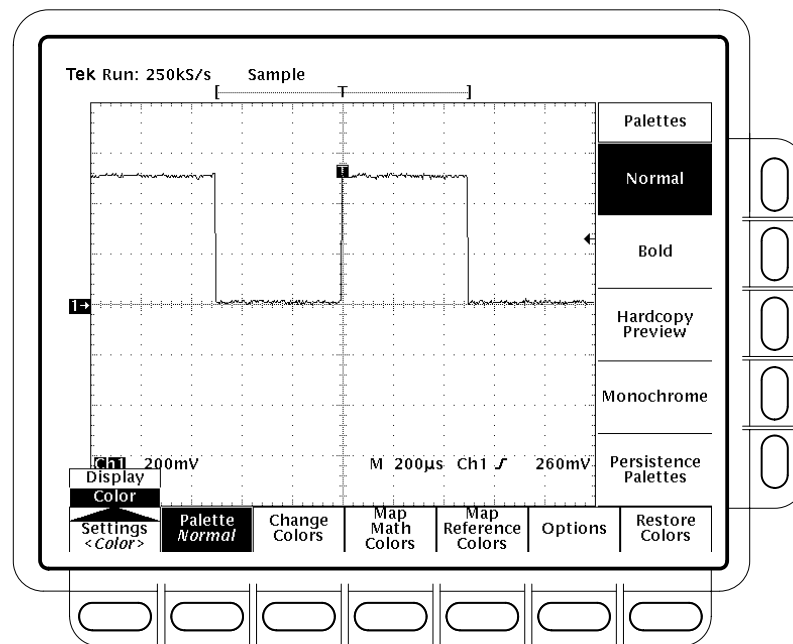

Figure 3–21: Display Menu — Setting
2. Press **Settings** in the main menu until you select **Color** from the pop-up menu. (See Figure 3–21.)
1. Color oscilloscopes: Select the main menu **Change Colors** item. (See Figure 3–22.)